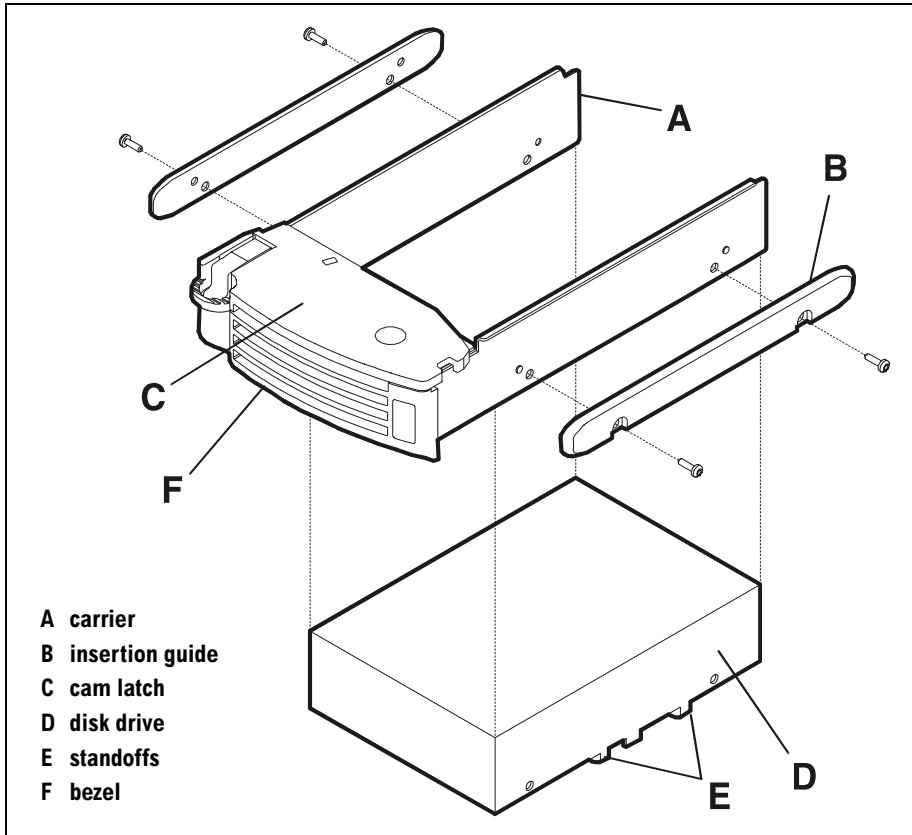

Figure 51 Disk Carrier Assembly
2. Set the disk, circuit-side down, on an ESD mat. Standoffs (E in Figure 51) keep circuits away from the table surface.
6. With the latch (C in Figure 51) facing up and opposite the pin end of the disk drive, set the carrier around the disk drive.
8. Set the insertion guides (B) on the sides of the carrier, aligning holes in the guide with holes in the carrier and disk drive. Nubs on the carrier fit dimples on the guides and help to hold the guides in position on the carrier.